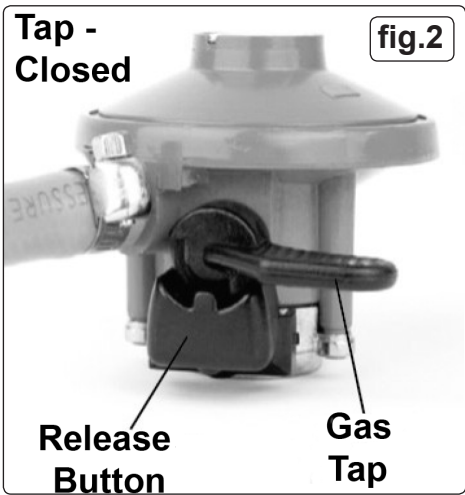

fig.2
- 3.2.3. Connecting the regulator to the gas cylinder - ensure that the regulator tap is in the 'Closed' position (fig.2) and that the heat control dial is in the ignition position (fig.4) before doing so. Remove the cap from the gas cylinder, place the regulator onto the gas cylinder and push down firmly and vertically. A clicking sound should be heard, indicating that the regulator is securely installed (if its difficult to push down, slight pressure on the release button may be needed).
- 4.2.1. To turn the heater off, turn the regulator gas tap to the 'Off' position (fig.2), wait for a few seconds and turn the heat control dial to the ignition position (fig.4).
- 4.3.1. Turn the regulator tap to the closed position (fig.2).
- 4.3.3. Hold in the regulator release button (fig.2) and pull the regulator upwards.